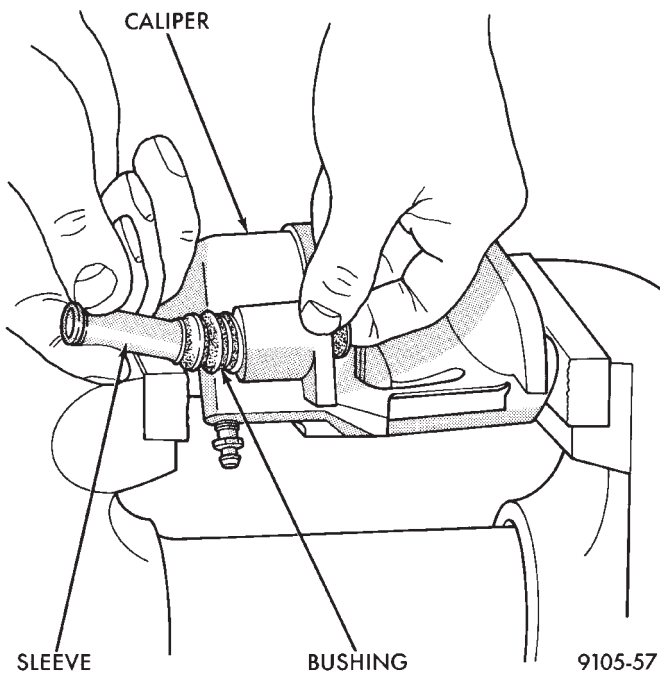

Fig. 153 Removing Inner Sleeve From Bushing
(1) Remove caliper from brake rotor (See Brake Shoe Removal). Hang caliper assembly on a wire hook away from the brake rotor.
(2) Push out and then pull the steel sleeve from the inside of the bushing using your fingers as shown in (Fig. 153).